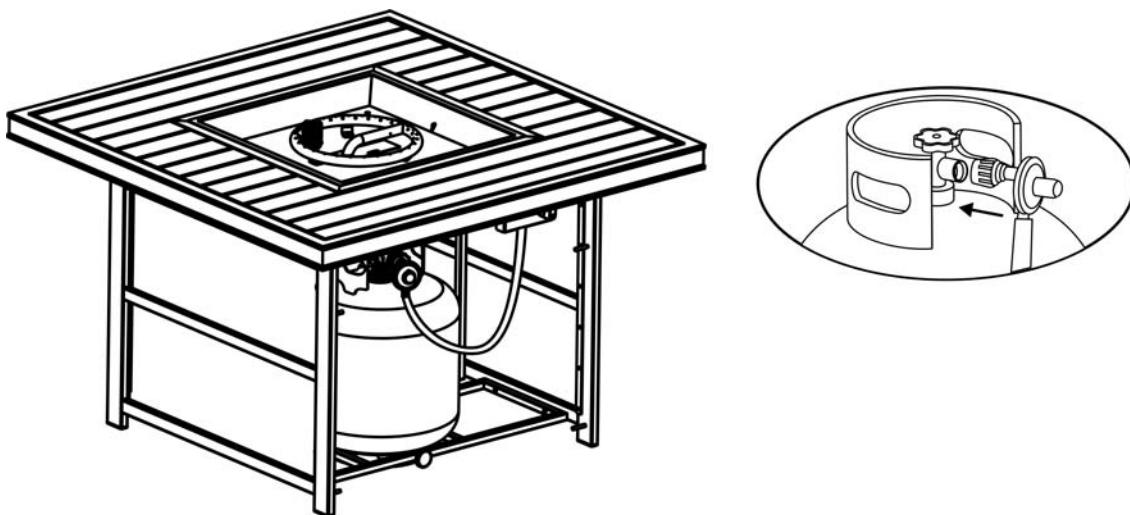

Figure 7
6. Slide the tank drawer out and place the LP tank in the drawer. Connect the regulator as shown in Figure 7. Turn the black handle clockwise to tighten. Turn the handle counter clockwise to remove. The hose must point down. Check that the valve is turned all the way clockwise to the "OFF" position. Open the tank valve. Apply a solution of soapy water to the tank-regulator connection and to the valve-hose connection to check for leaks. If soap bubbles continue to form, the connection has a leak. If a leak is found, close the tank valve and tighten all connections.